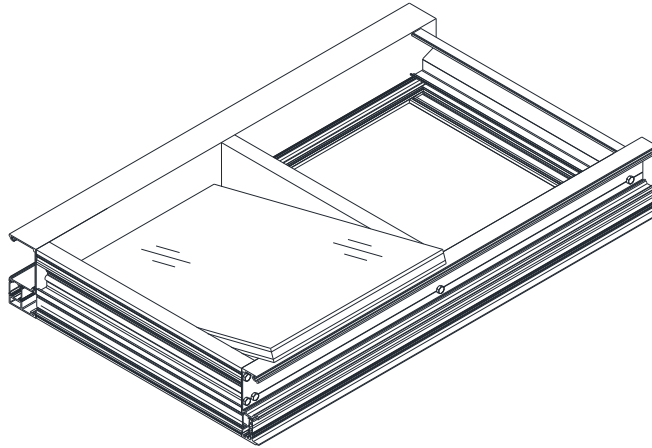

Figure 44: Inserting Glass
15.3.1 Insert Glass into the units, deep pocket first. Reference *Figure 44*.